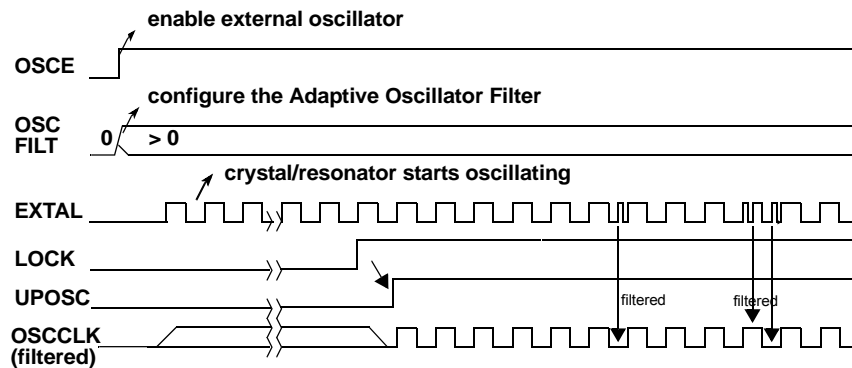

Figure 96. Noise Filtered by the Adaptive Oscillator Filter
1. Filter noise (spikes) from the incoming external oscillator clock. The filter feature is illustrated in Figure 96.